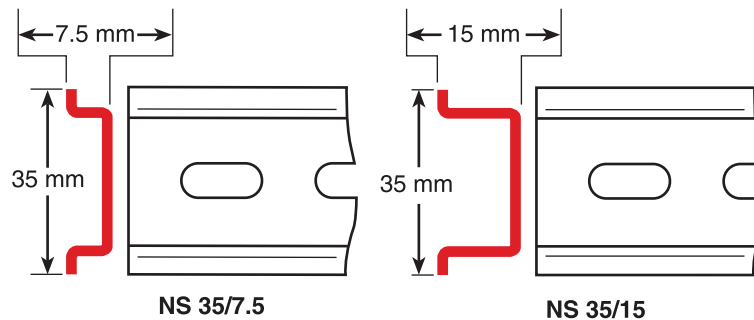

Figure 28. DIN rail types
2. The SmartNode device can be attached to top hat NS 35/7.5 (35 H × 7.5 D mm) and NS 35/15 (35 H × 15 D mm) section types of DIN rail (see figure 28).